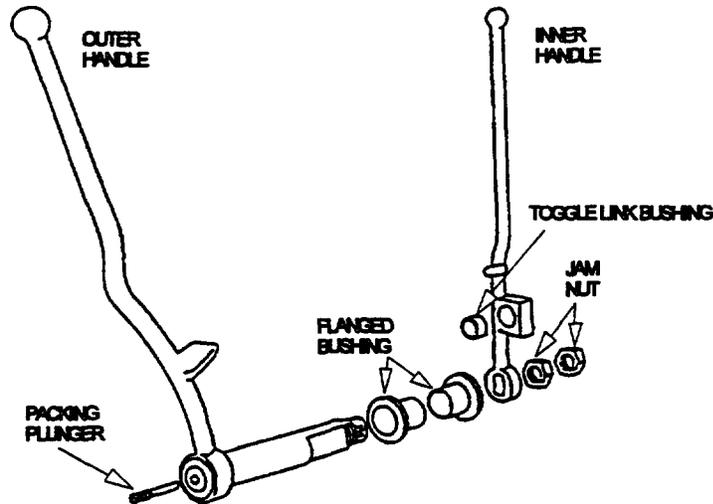

Figure 3-2. Quick-Acting Operating Handle Assembly (Left-Hand Shown)
- d. Withdraw the outside and inside handles from the sleeve. Remove both of the flanged bushings from the sleeve. See figure 3-2.